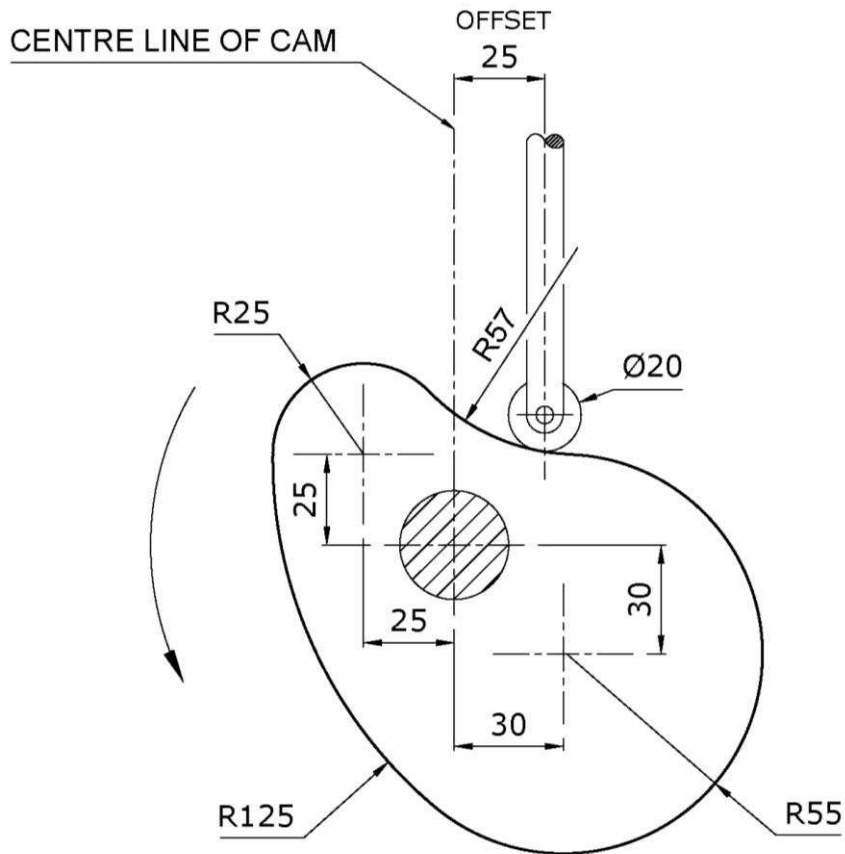

Figure 4b
- Copy, full size, the profile of the plate cam shown in Figure 4b. (5)
- Plot round the cam profile the locus of the roller centre. (2)
- Draw the cam graph displacement curve for the cam which rotates at 30 rpm. Use a scale of 180 mm to represent one revolution of the cam for the cam graph. (13)